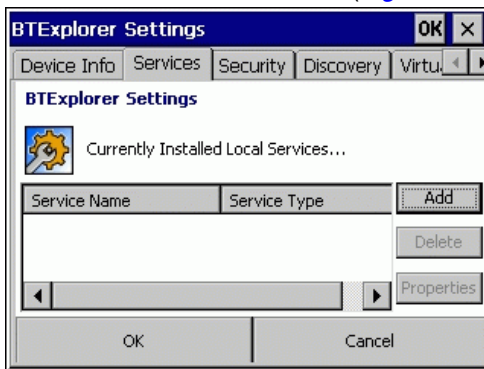

Figure 2-129 *BTE Explorer Settings Screen*
2. Select **Add** in Figure 2-129 and choose a service from the list.